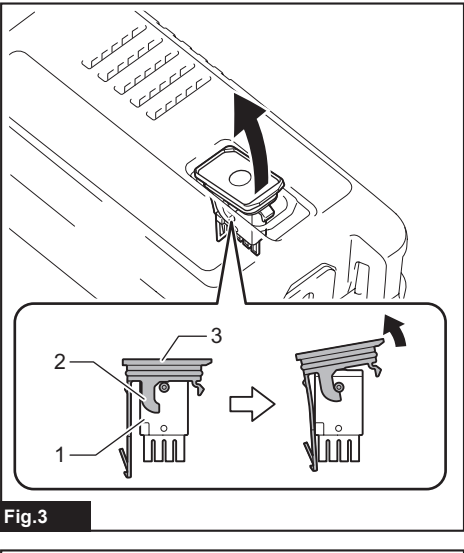

Fig.3
► **Fig.3:** 1. Wireless unit 2. Hook 3. Lid